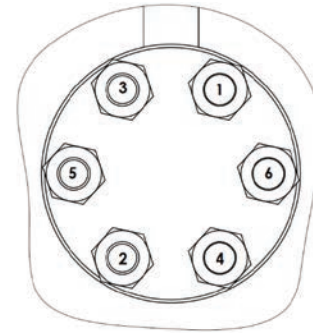

Figure 13- Torque Nuts Arrangement
7. Install all nuts (item 10) hand tight. Torque the nuts to 20% of the required value listed in the Recommended Torque table hereafter, following the torquing sequence shown in Figure 13. Repeat this sequence incrementally to 50%, 80%, and finally 100% of the specified torque.